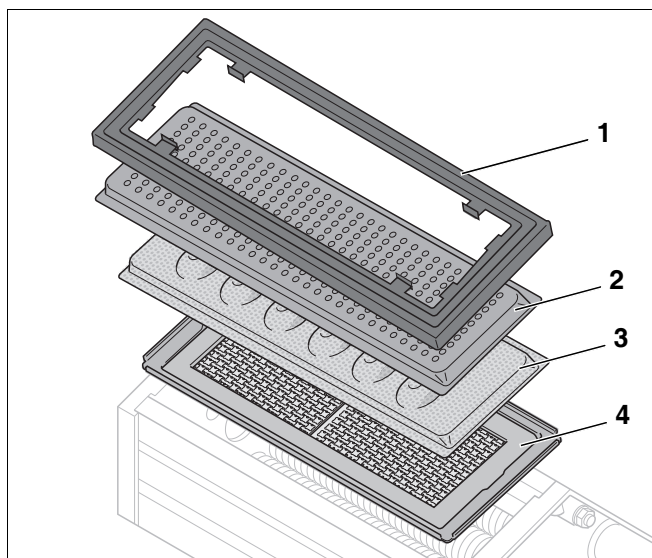

fig. 90 Removing the burner
- Remove the burner gasket (see fig. 90, pos. 1).
- Remove the gas/air distributor plate (see fig. 90, pos. 2).
- Remove the orifice plate (only applies to Logamax plus GB142-24/30 and GB142-60) (see fig. 90, pos. 3). Note that the orifice plate of the GB142-60 has a different shape.
- Remove the burner (see fig. 90, pos. 4).